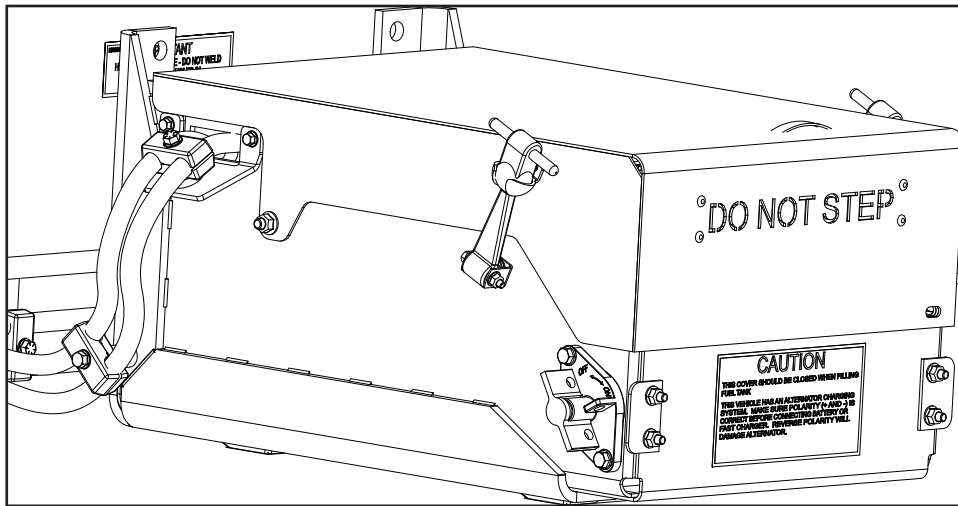

Figure 1
2. Verify that the battery disconnect switch is in the OFF position (see *Figure 1*).